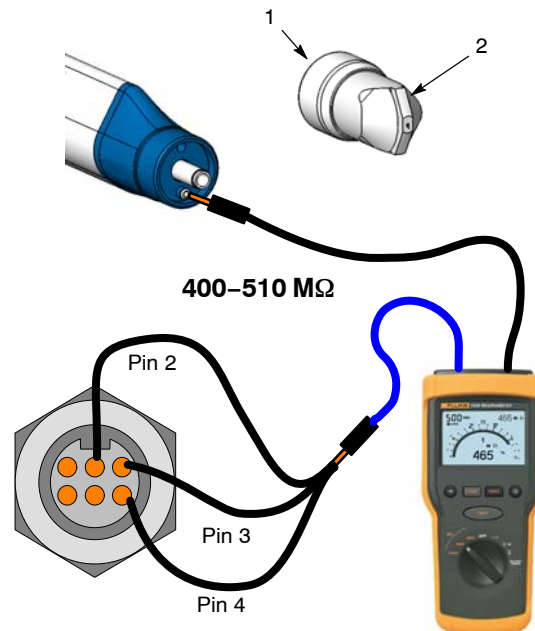

Figure 9 Multiplier/Resistor Test
1. See Figure 9. Short together receptacle pins 2, 3, and 4 and connect them to the positive megohm meter probe.